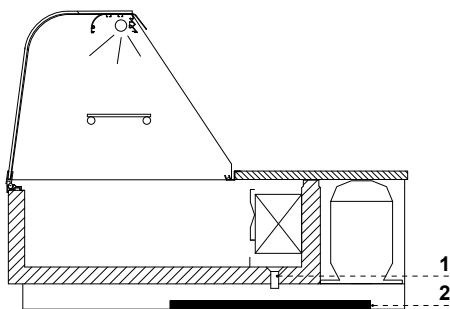

Fig.10 Condensate tray (Concerns "N" and "N2" models)
9. (Does not concern the "Z" versions) Place a condensate container or tray under water outlet hose Fig.9 or Fig.10